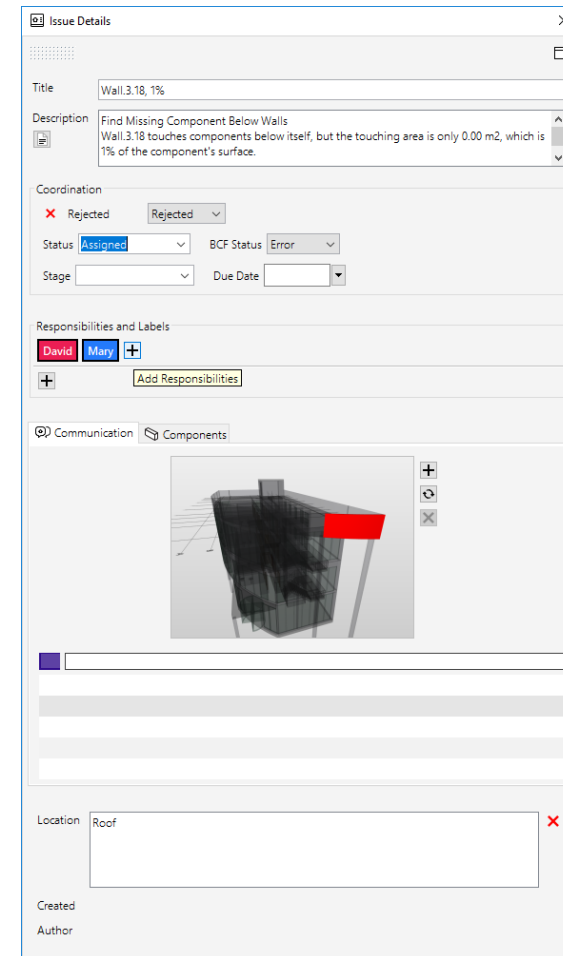

Figure 56: Coordination panel in Issue Details window
(15) You will also assign the issue to a specialist to solve the problem. Click the Responsibilities icon to activate a discipline, team, or add a new one from the + icon. Select "Assigned" in the **Status** bar and assign to a team or person. (see Figure 56).
(16) You will notice that the **Results Tree** now marks for existing comments and has a red cross as this issue is now "Rejected".